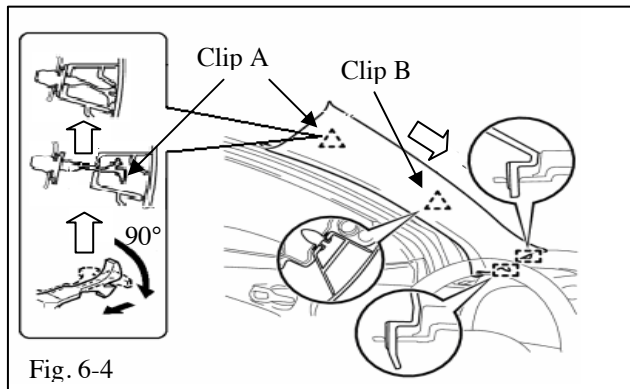

Fig. 6-4
(1) Inspect the center clip. If it is damaged, replace it.
(2) Set the claws of the lower A pillar garnish into the upper IP.
(3) Insert the tip of clip A into the pillar garnish's hole and rotate the tip of the clip 90°. If necessary, use needle-nose pliers with taped jaws to prevent clip damage. (Fig. 6-4)